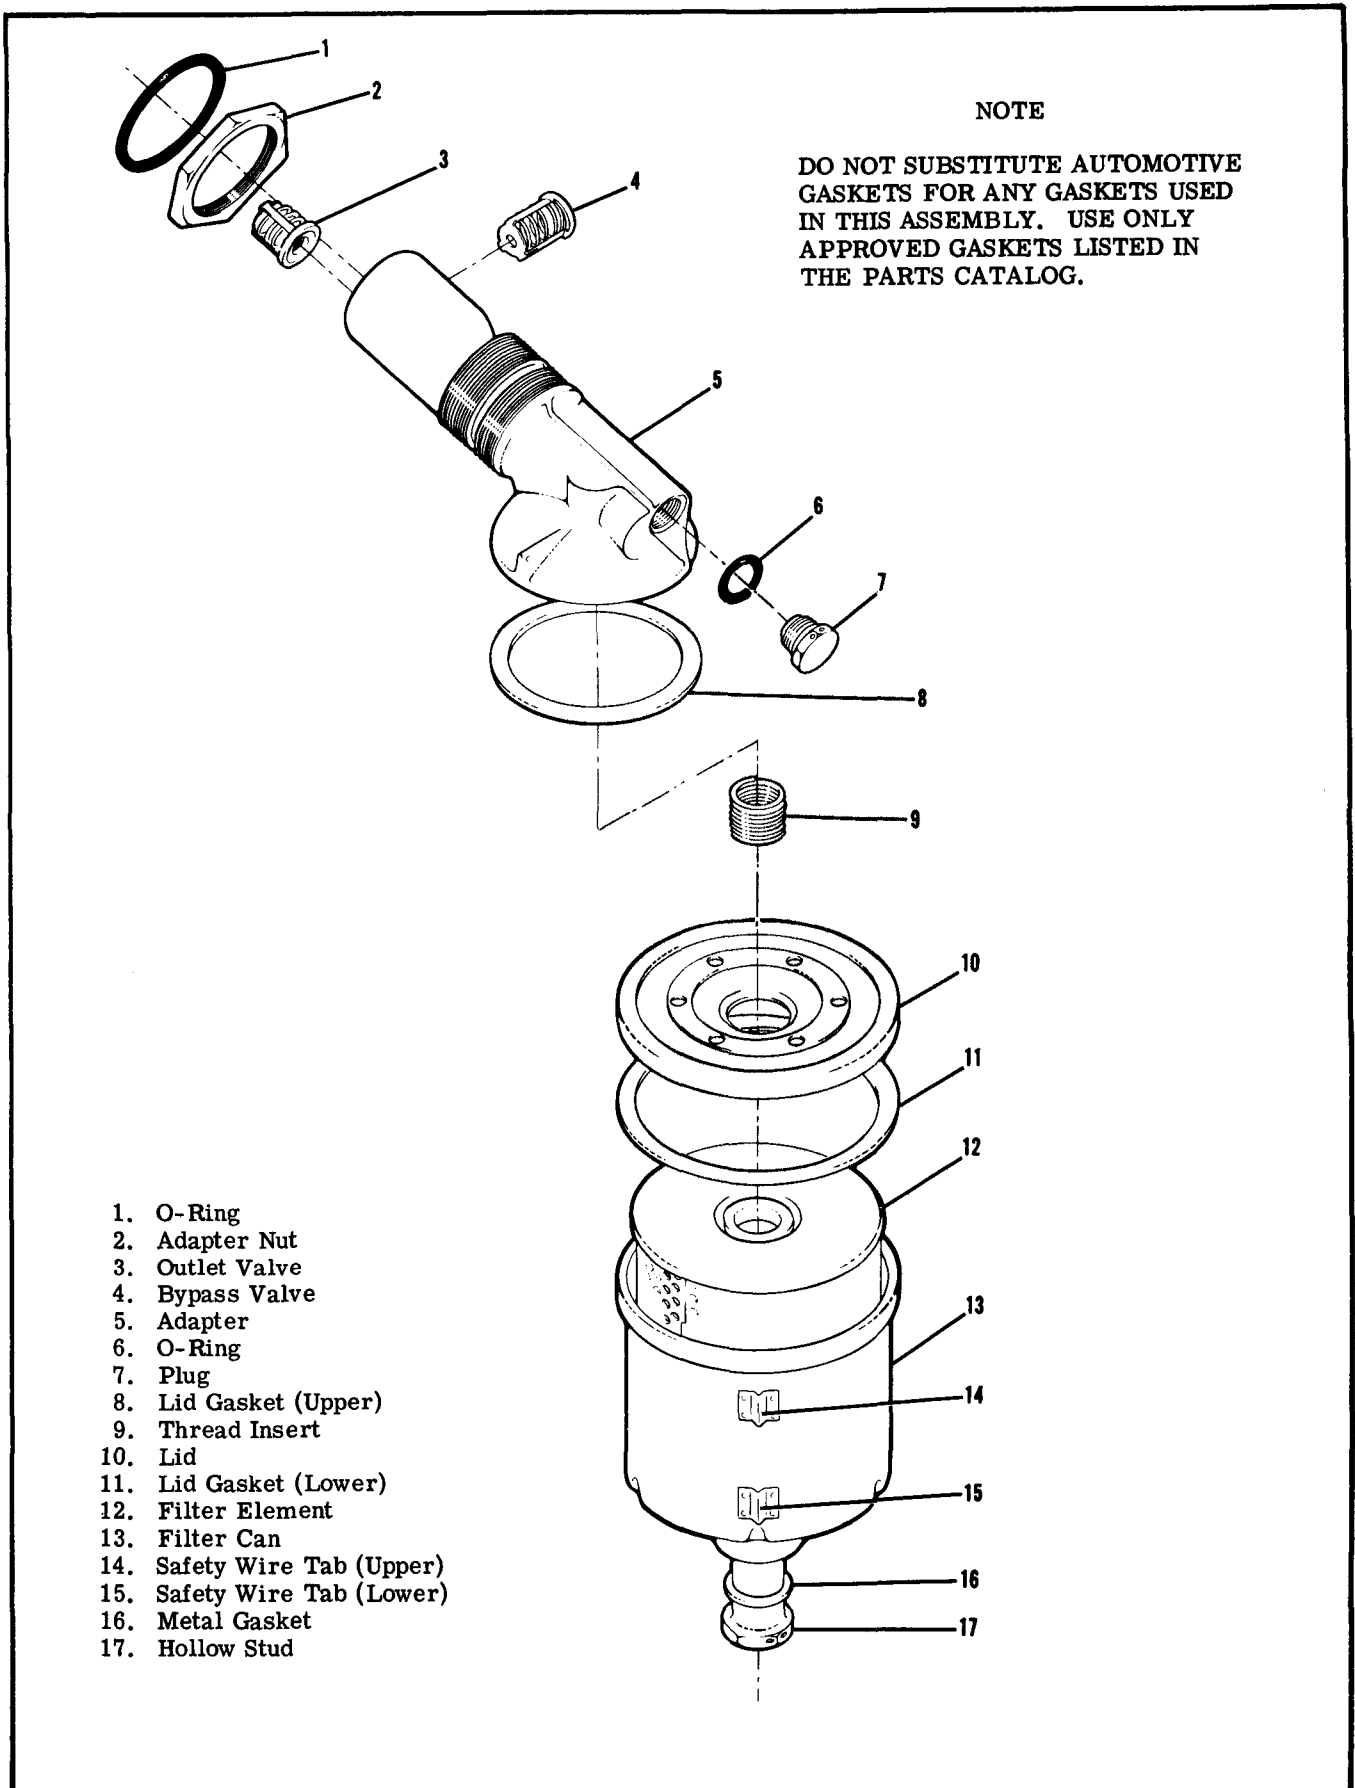

Figure 11-4. Full-Flow Oil Filter
11-35. FILTER ELEMENT REMOVAL AND INSTALLATION. (See figure 11-4.)
11-36. ADAPTER REMOVAL. (See figure 11-4.)
11-37. DISASSEMBLY, INSPECTION, AND ASSEMBLY. Figure 11-4 shows the relative position of the internal parts of the filter adapter and may be used as a guide during installation of parts. The bypass valve is to be installed as a complete unit, with the valve being staked three places. A new helicoil type thread insert in the adapter may be installed although special tools are required. Follow instructions of the tool manufacturer for their use. Inspect threads on adapter and in engine for damage. Clean adapter in solvent and dry with compressed air. Ascertain that all passages in the adapter are open and free of foreign material. Also, check that bypass valve is seated properly.
- a. Assemble adapter nut and new O-ring on adapter in sequence illustrated in figure 11-4.